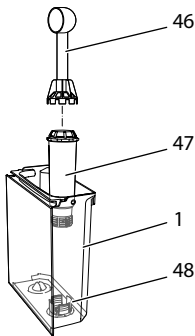

Fig. 25: Screwing/unscrewing the water filter
- Remove the water filter when the appliance requests you to do so (see Fig. 25, page 57).